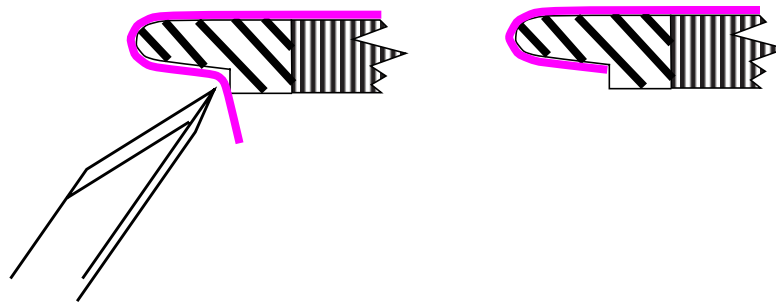

FIGURE 5 - TRIMMING EXCESS FOLD-BACK
- Step 6. Trim off the excess foldback as required (see Figure 5).